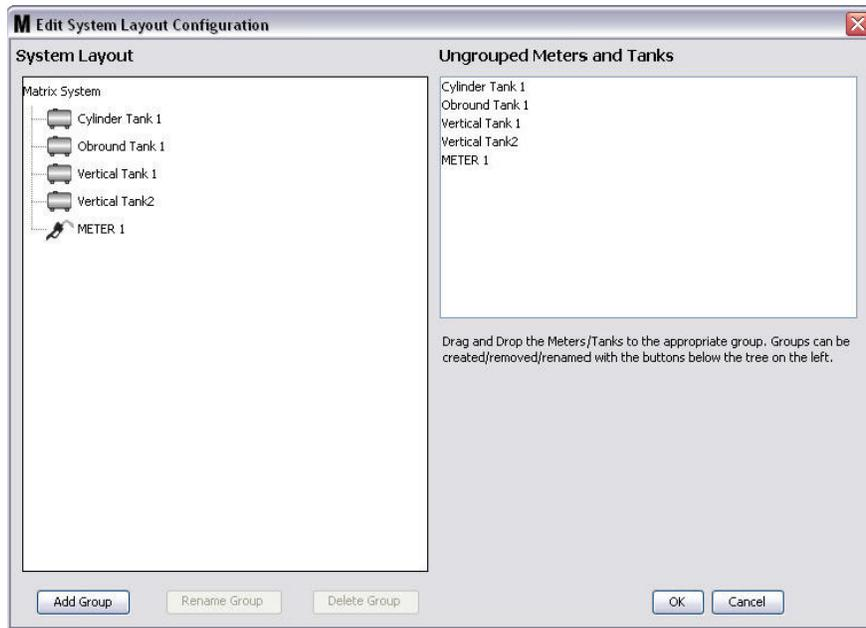

FIG. 92
3. The Edit System Layout Configuration screen shown in FIG. 92 displays.
4. Click the Add Group button (FIG. 92) to create a new device group.